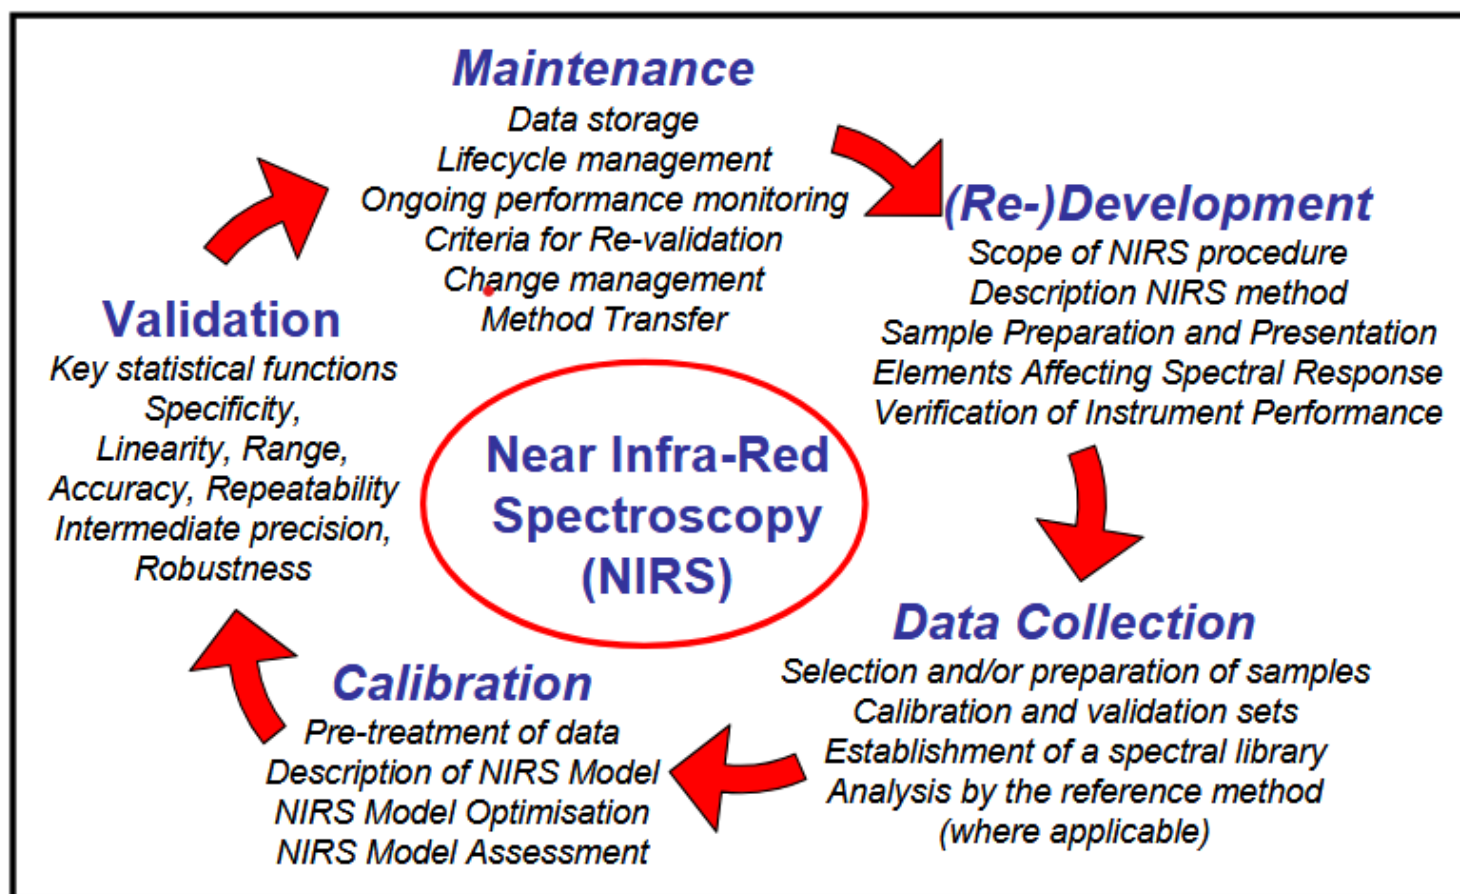

Figure 1. The iterative nature of NIRS
FIGURE 1 Perfusion harvest processing strategy for two scenarios. A: Harvest was pooled for 4 days then captured (CAP), viral inactivated (VI), and depth filtered (F). This was followed by two polishing steps (AEX and MM) operated in flow-through mode. At this point the material was tested for relevant quality attributes and pooled two by two if predefined limits were met. Further steps included NAF, UF, DF, formulation, and the final pooling into the DS. B: Future continuous manufacturing platform at 2000-L. Harvest is continuously collected and purified daily by a cDSP sequence composed of six cycles of capture, two cycles of VI-F, AEX, and MM. Four daily cDSP sequences are pooled before being then further processed to NAF and UF/DF prior to DS